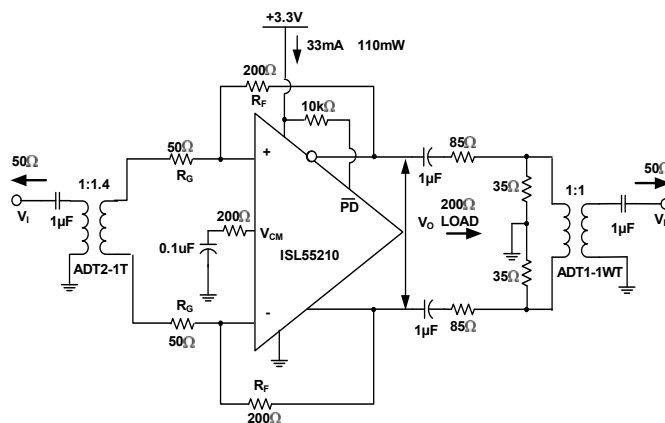
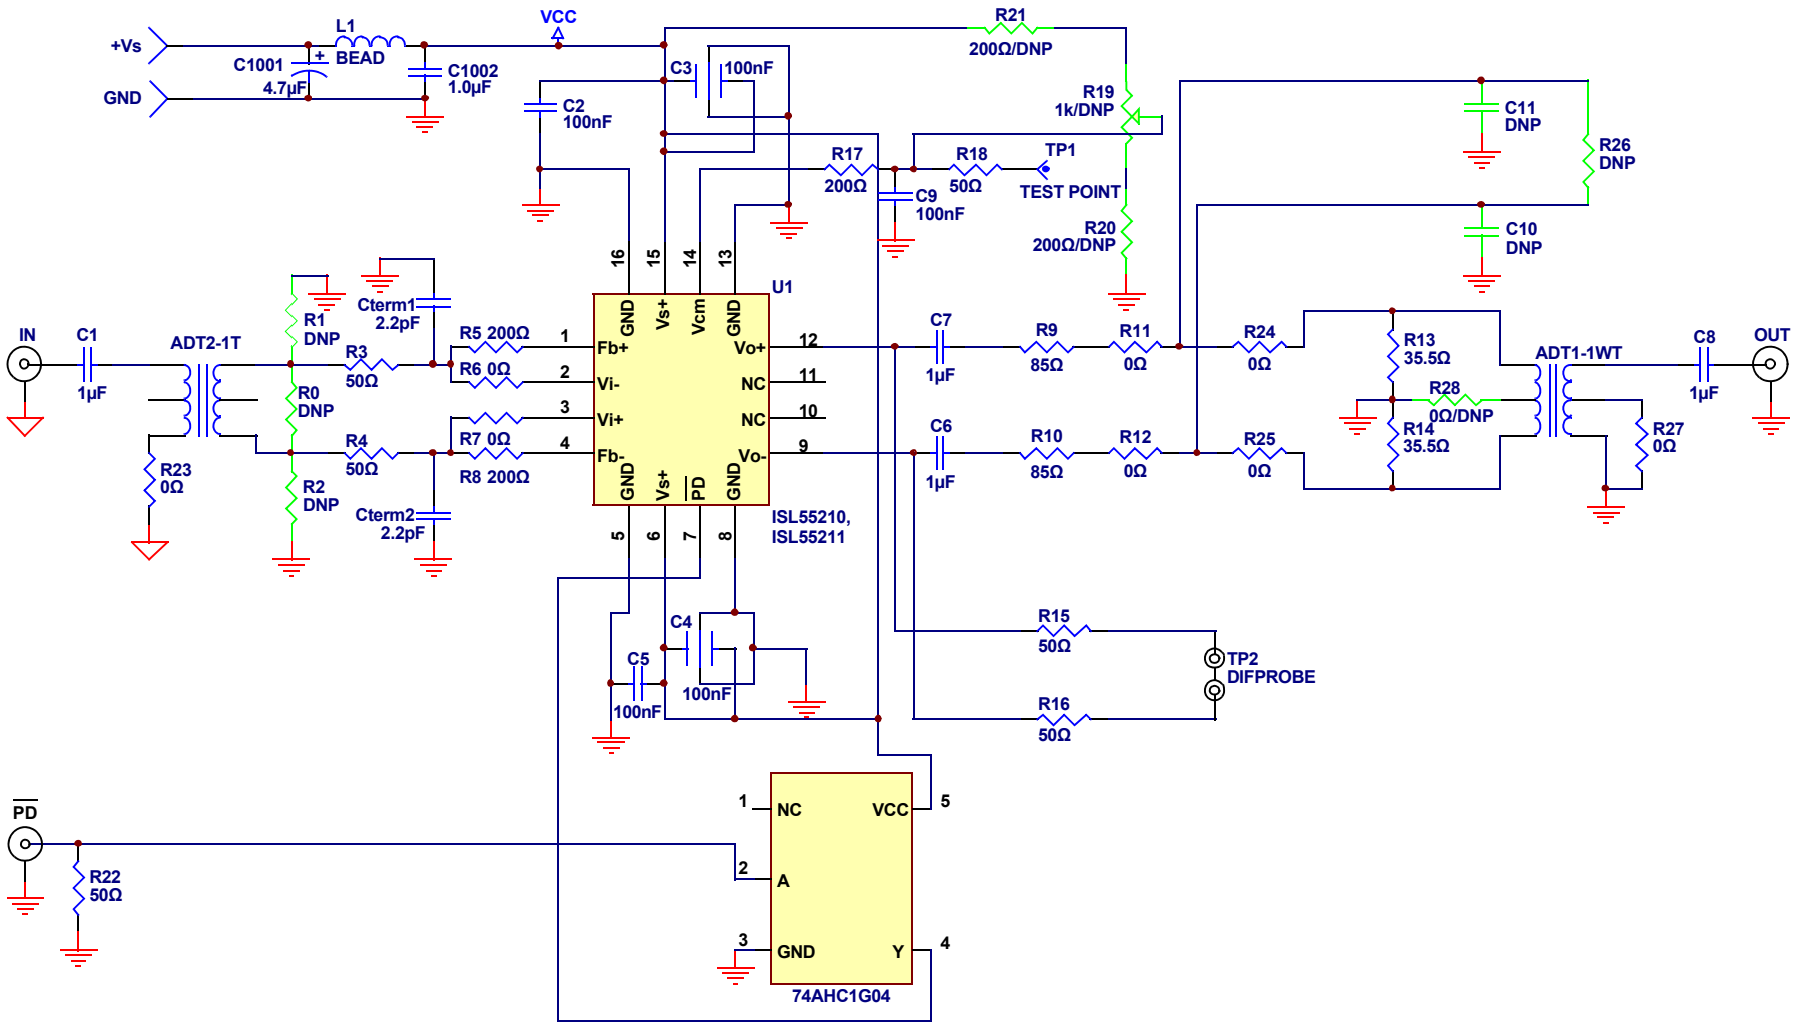

FIGURE 28. TEST CIRCUIT #1
FIGURE 38. SCHEMATIC FOR ISL55210, ISL55211 SINGLE INPUT TRANSFORMER EVM REV. C
The circuit of Figure 28 forms a starting point for many of the characterization curves for the ISL55210. Since most lab sources and measurement devices are single-ended, this circuit converts to differential at the input through a wideband transformer and would also be a typical application circuit coming from a single ended source. Assuming the source is a 50Ω impedance, the R_G resistors are set to provide both the input termination and the gain. Since the inverting summing nodes act as virtual ground points for AC signal analysis, the total termination impedance across the input transformer secondary will be $2 * R_G$. Setting this equal to $n^2 * R_S$ will give a matched input impedance inside the bandwidth of the transformer (where "n" is the turns ratio). The amplifier gain is then set by adjusting the feedback resistors
Working with a transformer coupled input as shown in Figure 28, or with two DC blocking caps from a differential source, means the output common mode voltage set by either the default internal V_{CM} setting, or a voltage applied to the V_{CM} control pin, will also appear as the input common mode voltage. This provides a very easy way to control the ISL55210 I/O common mode operating voltages for an AC coupled signal path. The internal common mode loop holds the output pins to V_{CM} and, since there is no DC path for an I_{CM} current back towards the input in Figure 28, that V_{CM} setting will also appear as the input common mode voltage. It is useful, for this reason, to leave any input transformer secondary centertap unconnected. The internally set V_{CM} voltage is referenced from the negative supply pin. With a single 3.3V supply, it is very close to 1.2V but will change with total supply voltage across the device as shown in Figure 26.
Most of the characterization curves start with Figure 28 then get different gains by changing the feedback resistor, R_F , use different input transformers where then the R_G is also adjusted to hold an input match, or vary the loading. For load tests below the 200 Ω shown in Figure 28, a simple added shunt resistor is placed across the output pins. For loads >200 Ω , the series and shunt load R 's are adjusted to show that total load (including the 50 Ω measurement load reflected through the 1:1 output measurement port transformer) and provide an apparent 50 Ω differential source to that transformer. This output side transformer is for measurement purposes only and is not necessary for final applications circuits. There are output interface designs that do benefit from a transformer as part of the signal path, but the one shown at the right of Figure 28 is used only for characterization to get a doubly terminated 50 Ω measurement path going differential to single ended.
The characterization circuit of Figure 28 shows one possible input stage interface that offers several advantages. The ISL55210 can also support a DC coupled differential to differential or single ended input to differential requirement if needed. Where AC coupling is adequate, the circuit of Figure 28 simplifies the input common mode voltage control. If the source coming into this stage is single ended, the input transformer provides a zero power conversion to differential. The two gain resistors (R_G in Figure 28) provide both the input termination impedance and the gain element for the amplifier. For minimum noise, only R_G should be used and set to achieve the desired input impedance. Since the ISL55210 is a VFA device, these resistor values can be scaled up and down a bit more freely than a current feedback based FDA.
3.6V_{P-P} output capability. The V_{P-P} reported in Figure 26 is an asymmetrically clipped maximum swing. Going 10% above this 3.7V target to 4.1V will be within the recommended operating range and give some tolerancing headroom that would also suggest the V_{CM} voltage be moved up to approximately 1.5V. This coincides with the default output V_{CM} from Figure 26. Operating at +4.1V single supply in a Figure 28 type configuration will give the maximum linear available output swing of 3.6V_{P-P}.
The differential inputs of the ISL55210 also have operating range limits relative to the supply voltages. Operating in an AC coupled circuit like Figure 28 will produce an input common mode voltage equal to the outputs. The inputs can operate with full linearity with this V_{CM} voltage down to 1.1V above the GND connection (or -V_S supply). On the default 1.2V output V_{CM} on +3.3V supplies this gives a 100mV guardband on the input V_{CM} voltages. Overriding the default V_{CM} by applying a control voltage to the V_{CM} pin should be done with care in going towards the negative supply due to this limit. On the + side, the maximum V_{CM} above the -V_S supply is 2V so there is more room to move the output V_{CM} up than down from the default value.
Test circuit #1 (Figure 28) is implemented on an Evaluation Module Board available from Intersil. This board includes a number of optional features that are not populated as the board is delivered. The full EVM board circuit is shown in Figure 38 where unloaded (optional) elements are shown in green.